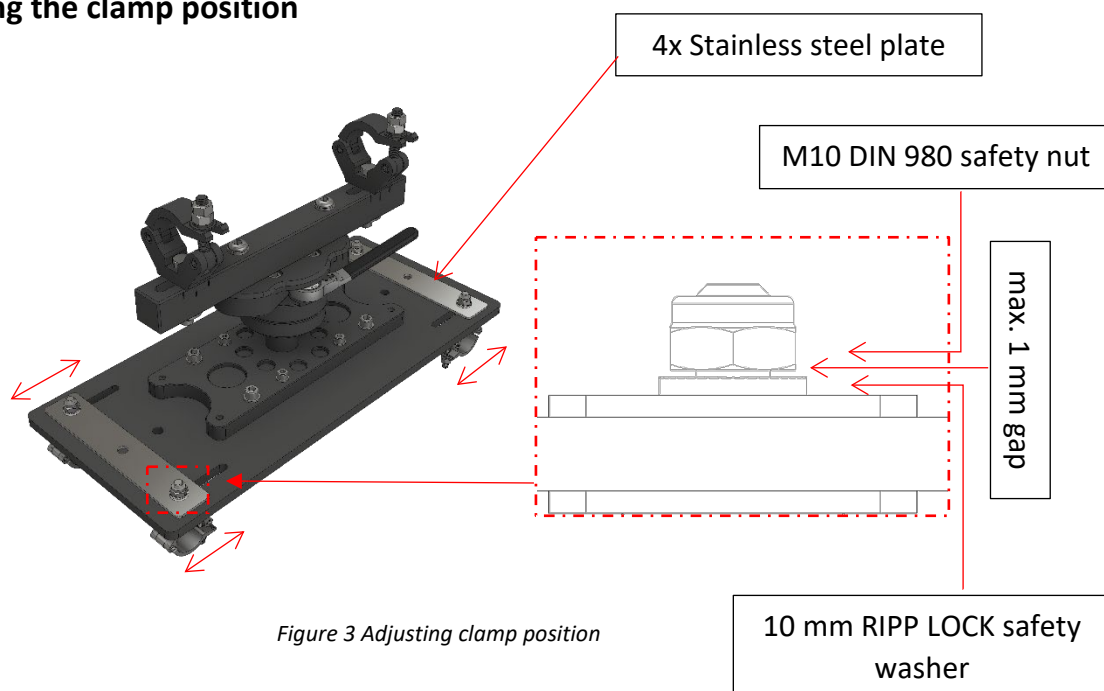

Figure 3 Adjusting clamp position
**Step 1:** Untighten the four M10 DIN 980 safety nuts until there is a gap of max.1 mm between the nut and the 10 mm RIPP LOCK safety washer as described in Figure 3 Adjusting clamp position. With this the position of the clamps can be adjusted to match the dimensions of a suitable EVO FRAME.